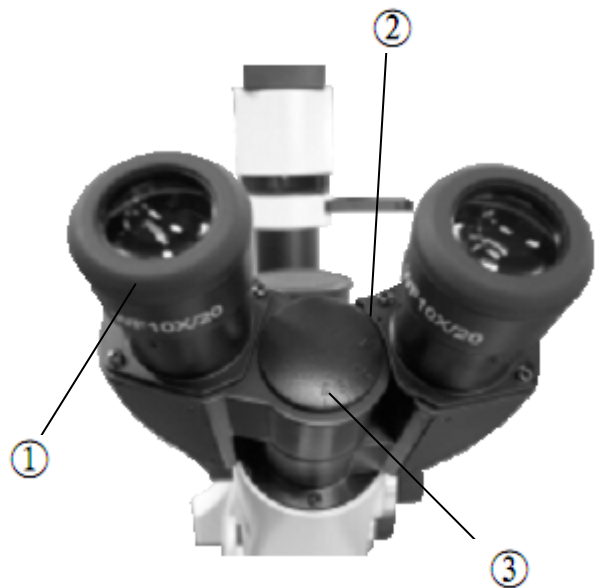

Fig .20
### 4-3-1 Adjusting the diopter (Fig.20)
★ The reticle on the interpupillary distance indicator③, pointed by the spot “.” ② on the eyepiece holder, shows the scale of the interpupillary distance. (Fig.20)